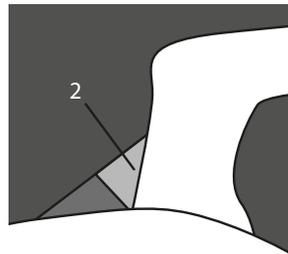

Figure 16- Wear indicator - good condition
2. If a green indicator is visible (on the handle), then the AKS 3004 is in a new condition or the pads and towball are within the permissible limits (Fig 16 - Item 2).